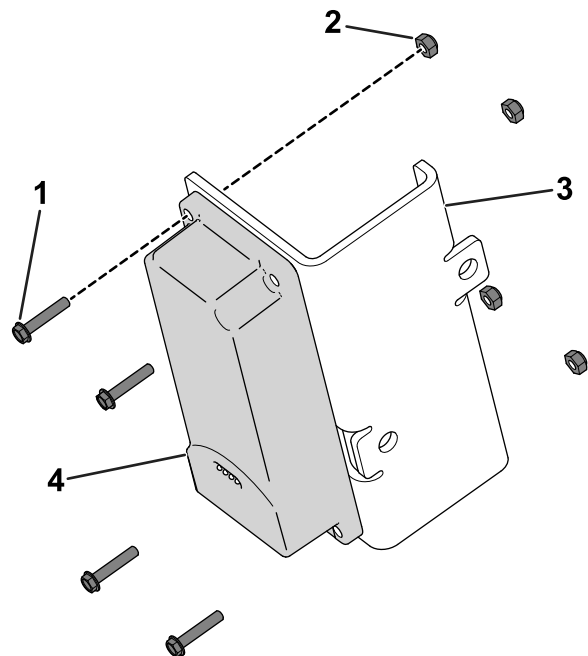

Figure 6
1. Use 4 hex-head bolts (#10 x 1 inch) and 4 locknuts (#10) to secure the telematics device to the device bracket (Figure 6).